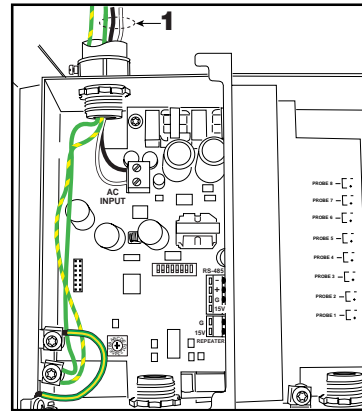

Fig. 4
1. From an independent 24 hour power supply at the distribution panel, run three 2.5 mm² (minimum) standard color coded wires (item 1 in Fig. 4); two for ac power and one for earth to the fused spur.